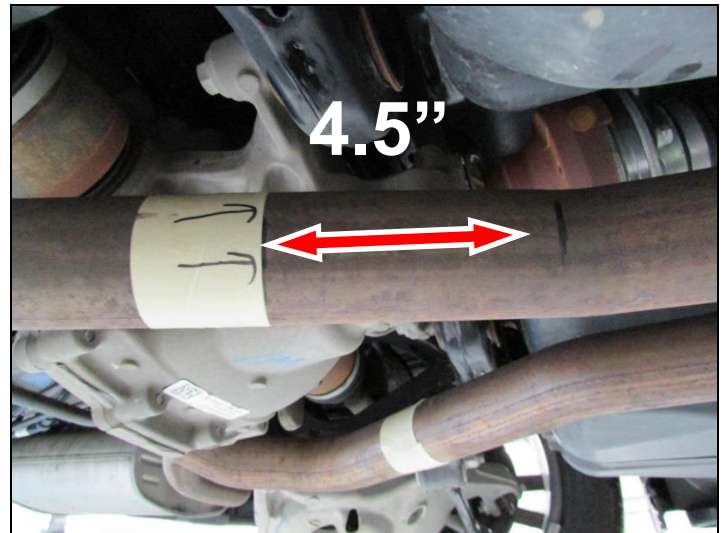

Figure 3
5. With a permanent marker, locate the tangent line (This is where the bend ends and the straight section of the pipe begins) of the right side OE mid pipe and mark a straight line. Now mark another straight line exactly 4.5" after your tangent mark (This is 4.5" in the direction of the rear of the vehicle). We suggest using masking tape to wrap around the OE mid pipe to ensure a straight cut. Draw arrows to ensure you cut at the correct side of the masking tape. **DOUBLE CHECK AND MEASURE TWICE BEFORE CUTTING.** See Figure 3.